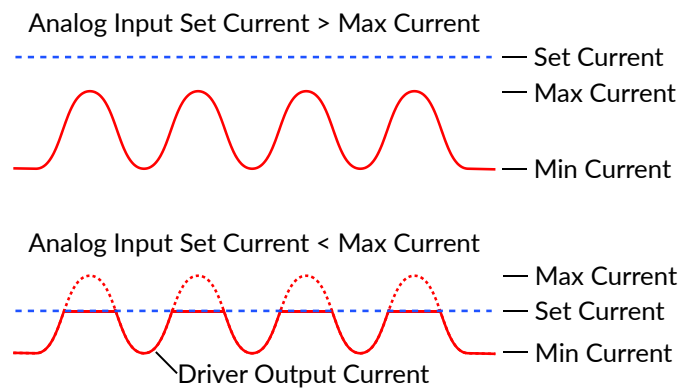

Figure 4.5: Driver and Light Source in External Analog Mode
- c) The **External Analog** mode (Fig. 4.5) is similar to the External TTL, except that the current will be set by the voltage on the BNC input (Fig. 4.5, top). On the input BNC, a maximum voltage signal corresponds to a maximum driver current. Should the current set on the light source be less than the maximum current, any voltage corresponding to a higher current will clip the output waveform (Fig. 4.5, bottom). To